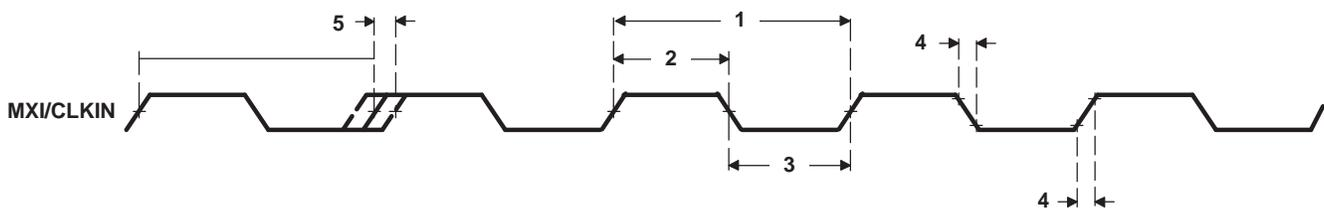

Figure 6-14. MXI/CLKIN Timing
Table 6-16. Timing Requirements for MXI/CLKIN (-594) Devices^{(1) (2) (3) (4)} (see Figure 6-14)